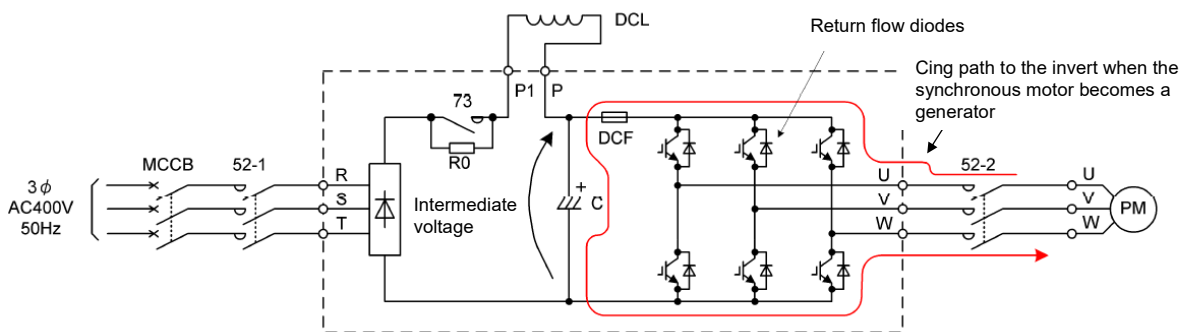

Figure 5.1.4-1: Path of rush current
Hence, when the synchronous motor is a generator, the voltage on the synchronous motor terminals is higher than the inverter intermediate voltage, and the contactor (52-2) is turned on, rush current flows in the route in Figure 5.1.4-1, causing the problems (1) and (2) above. (Similar phenomenon occurs when recovering from instantaneous power failure.)